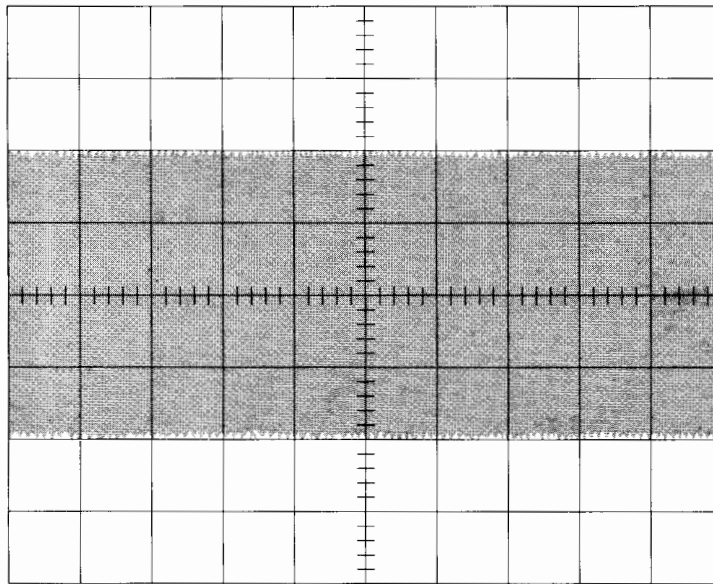

Figure 3-22. Head Amplitude Waveform
6. The average minimum read back amplitude peak to peak should be 120 millivolts (see Figure 3-22). If this amplitude is below the minimum specified, the load pad should be replaced and the head should be cleaned if necessary before rewriting and rechecking. If the output is still low, it will be necessary to install a new head and carriage assembly.